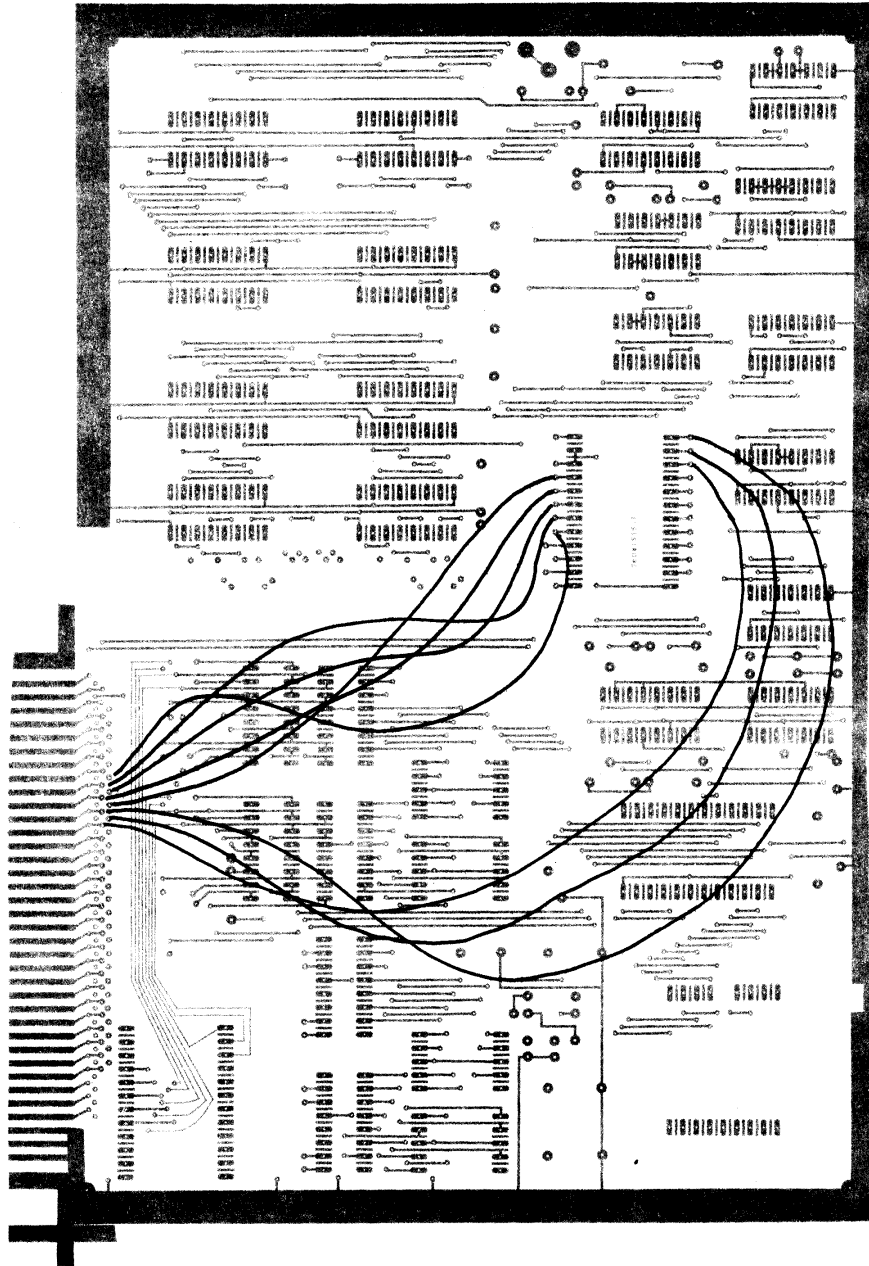

Figure 16. Address Pulses to PROGRAM Socket Bussing
- (.) Cut and prepare eight 7-1/2 inch lengths of wire. Connect as indicated in Figure 16.